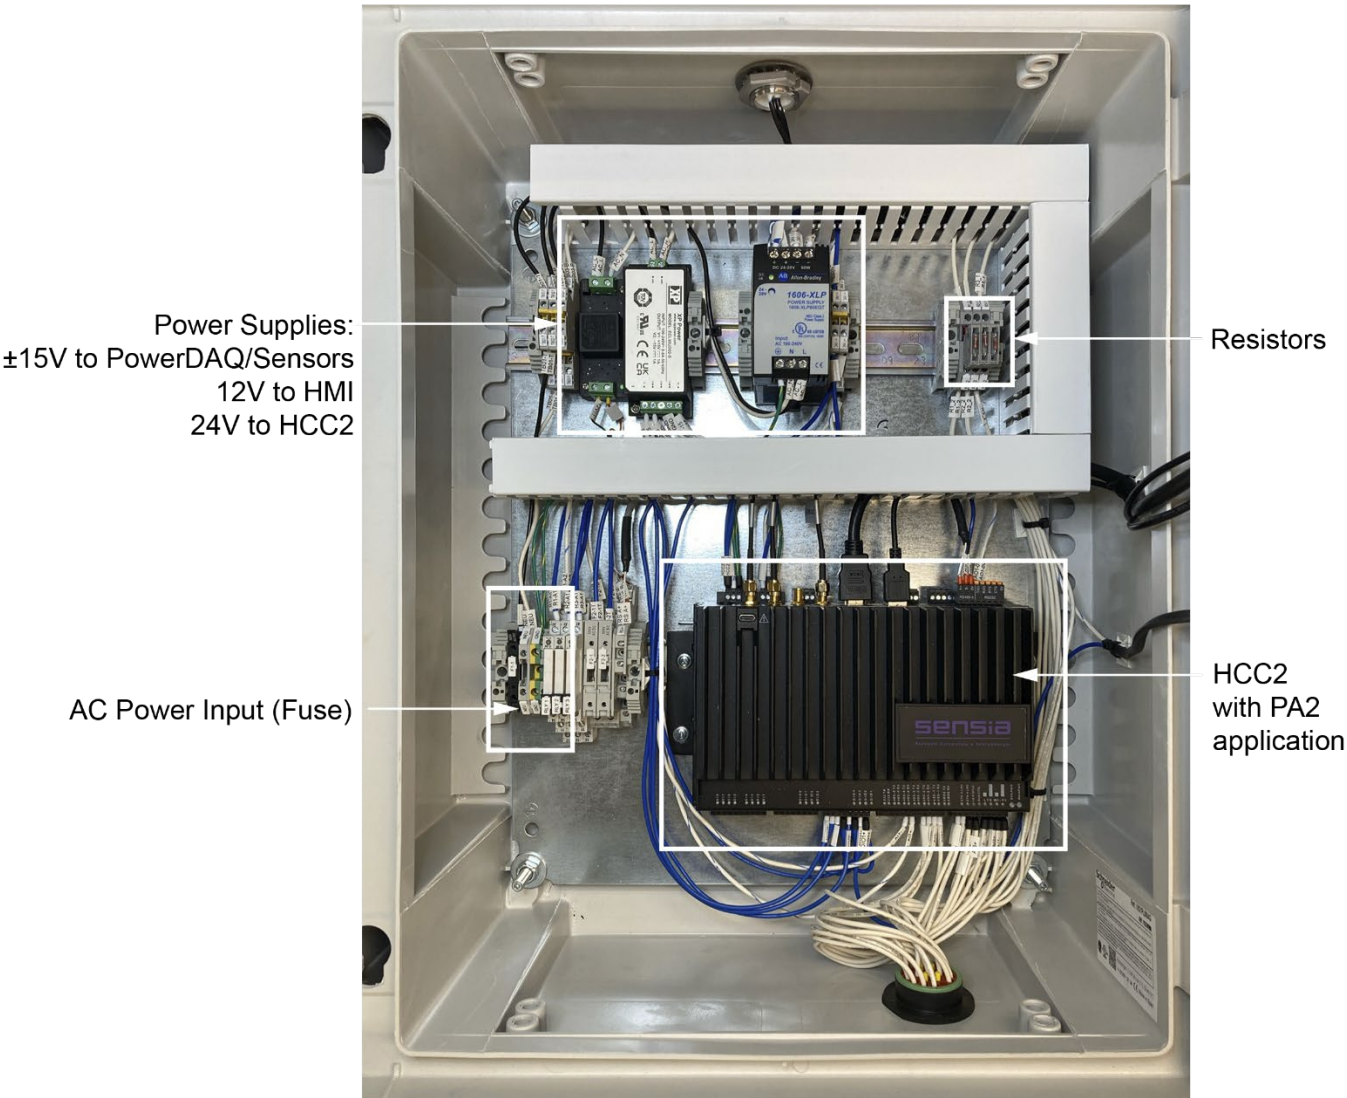

Figure 4.5—Controller enclosure components
- b. Verify that the F1-1 fuse in the power terminal of the HCC2 enclosure (Figure 4.5, page 34) is open. If the fuse is closed, open it to prevent electrical hazards during installation.